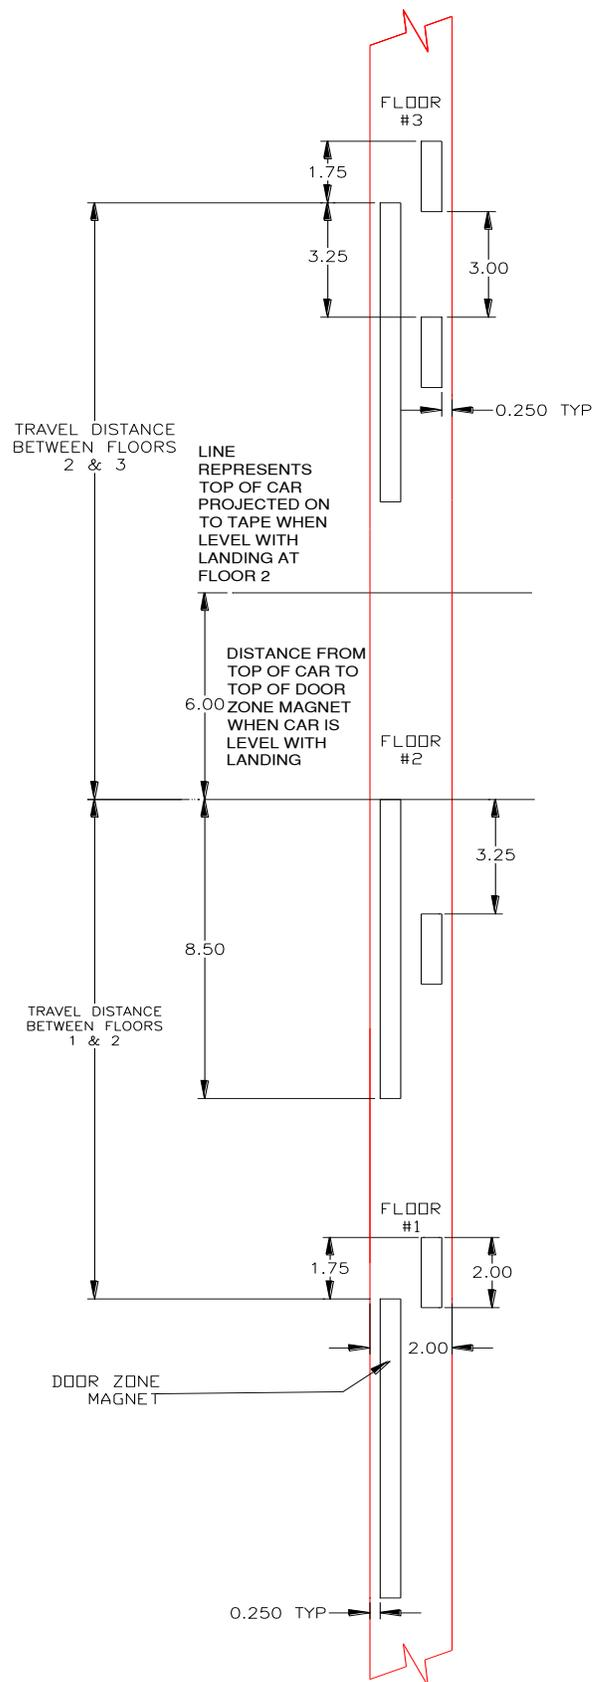

Figure 57 - Magnet Placement Using Travel Distance
- d. Locate & mark the top of the door zone magnet on floors below and floors above using the travel distance between floors. See Figure 57.